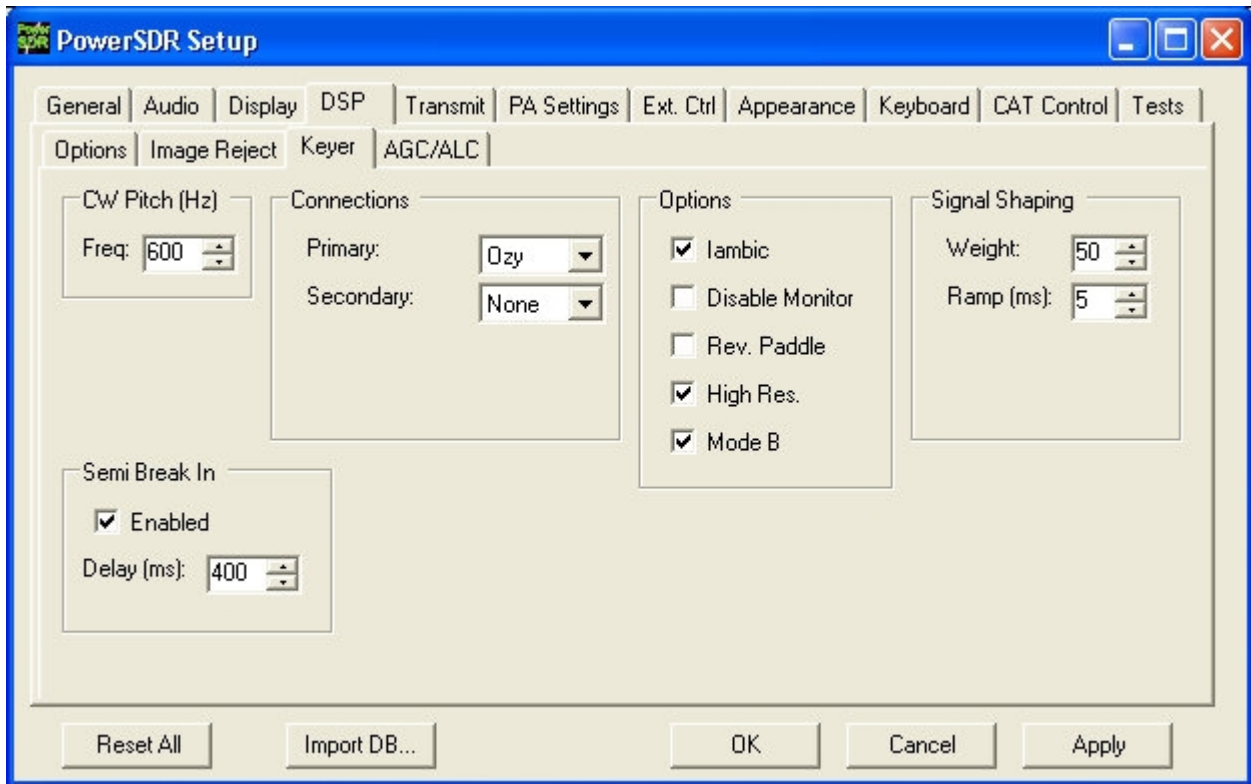

Fig 4: Selecting Ozy as the Primary Keyer Connection in PowerSDR
- To use this key, you will need to enable it in PowerSDR. To do so, click on Setup and then select the DSP tab followed by the Keyer Sub-tab. In the Connections section, select Ozy as shown in Fig 4 below.